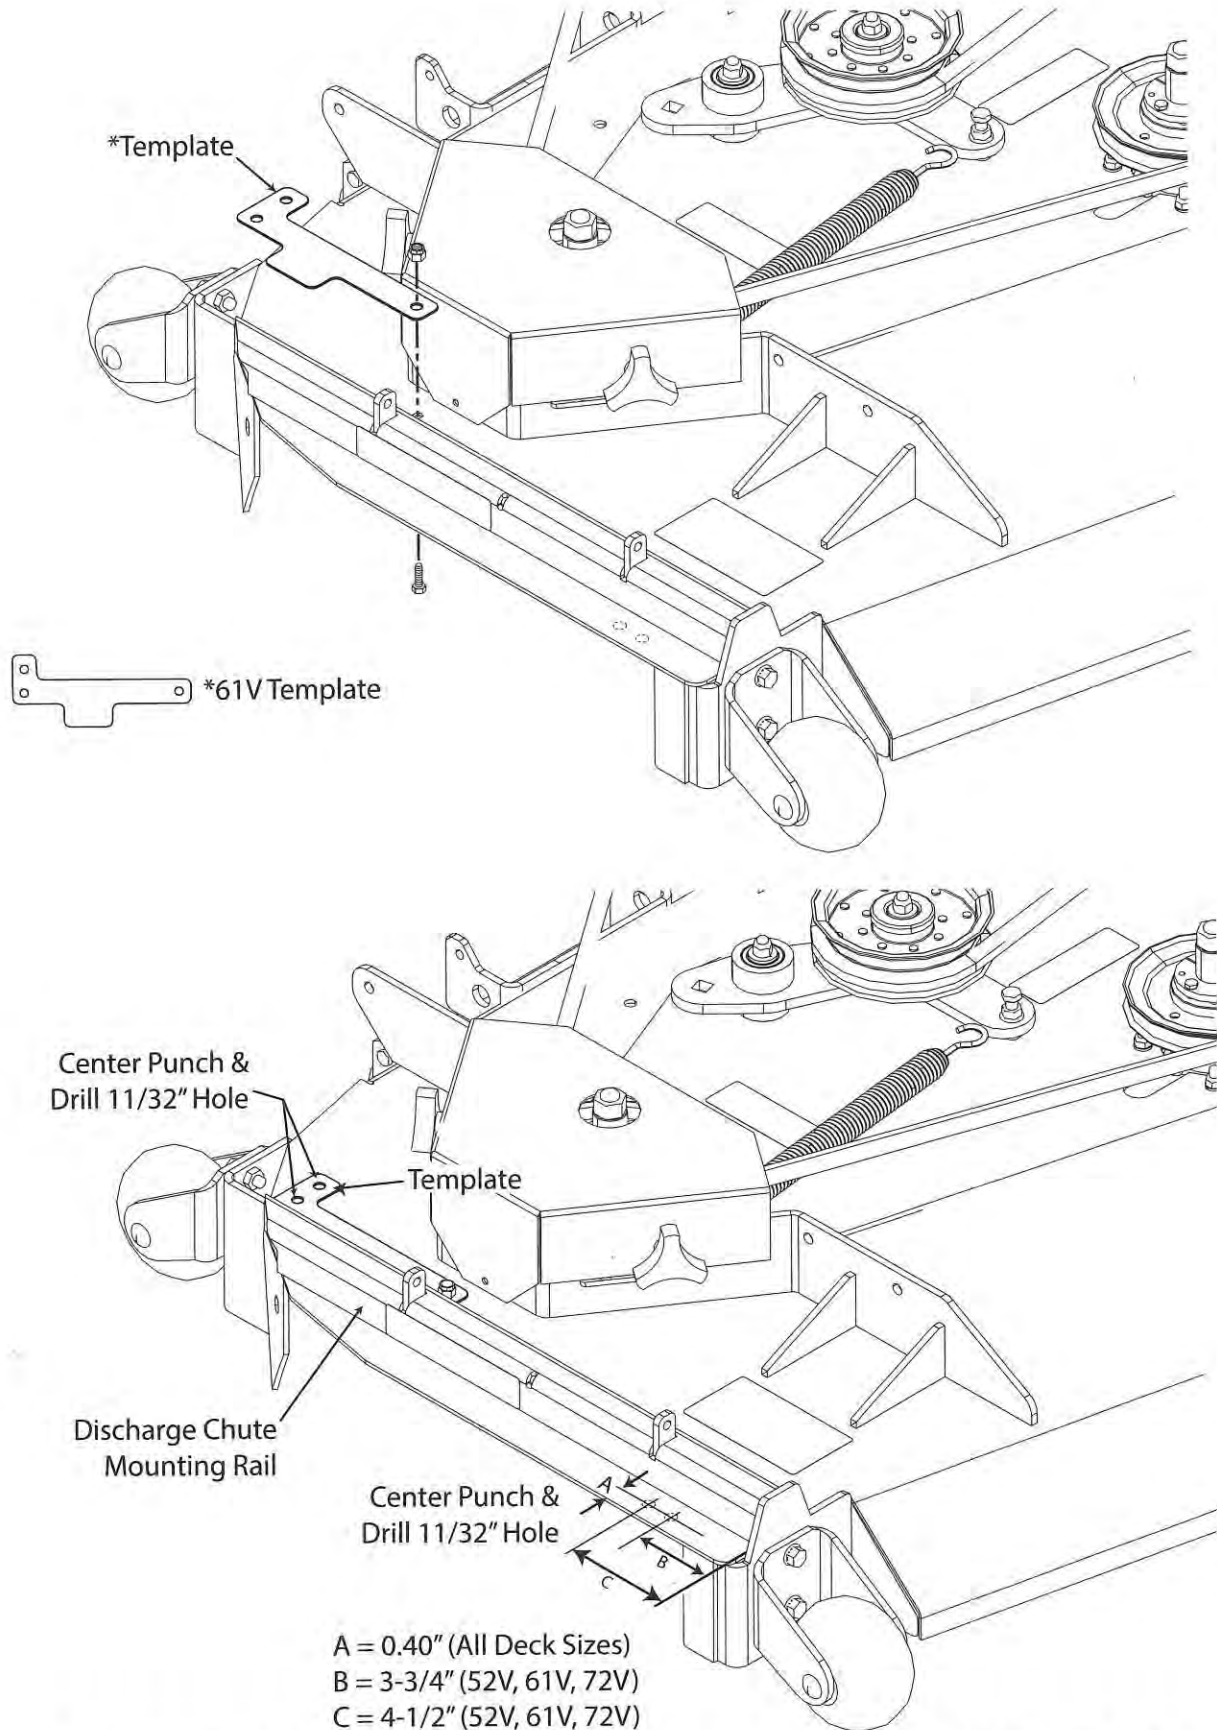

Figure 3-10. Locating and Drilling the Mounting Holes for STCII/SVRII/STTII/SCZII -61V
8. Install one (1) 5/16-18 x 3/4" bolt and one (1) 5/16-18 elastic stop nut. Do not tighten the hardware.
9. Install the template to locate the mounting holes for the lever assembly. Secure to the cutter deck using the turbo baffle mounting hardware removed in step 5. See Figure 3-10, Page 10.
10. Hold the template against the discharge chute mounting rail and tighten the hardware. See Figure 3-10, Page 10.
11. Center punch and drill the mounting holes using an 11/32" drill bit. See Figure 3-10, Page 10.
12. Carefully lay out the remaining mounting holes for the front hinge bracket in the cutter deck. See Figure 3-10, Page 10.